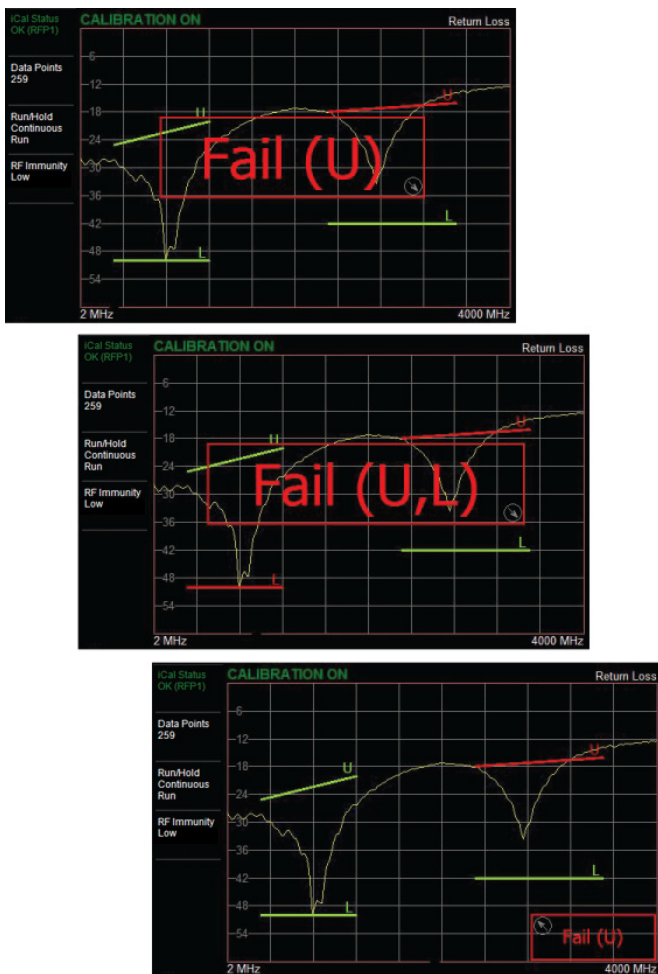

Figure 3-28. Pass/Fail Message Turned On
When set to On, a **Pass** or **Fail** message is displayed. Fail is displayed when the trace crosses or touches a limit line, as illustrated in Figure 3-28. Note that Upper (U) or Lower (L) or both (U, L) are displayed. To change the size and location of the Pass/Fail message, tap the small circled arrow in the lower-right corner of the large format message box. The circled arrow is in the upper-left corner when the message is in small format.